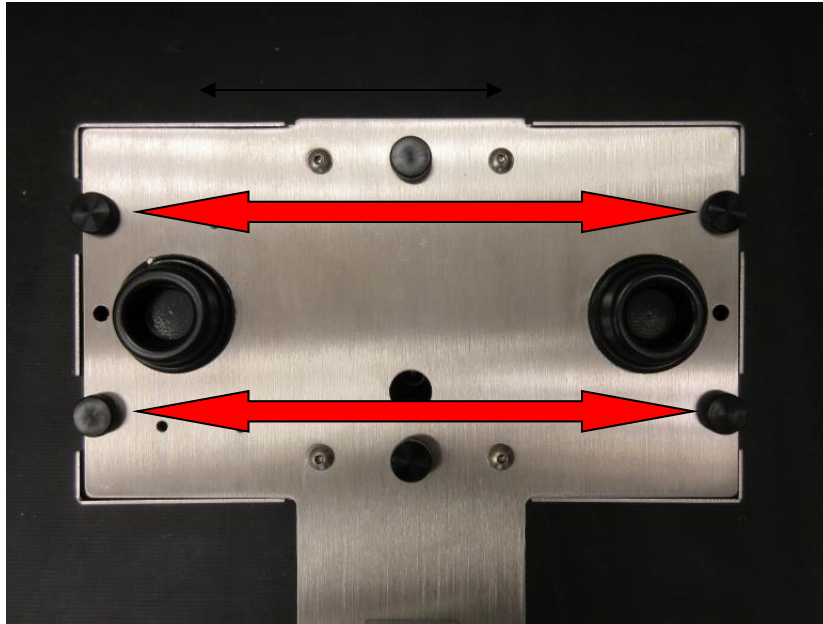

Figure 5.1.1 Cover screws
- Ensure air and power supply has been disconnected from the unit prior to removing the cover. Remove the four thumb screws securing the cover to the base plate. Lift cover out of the way. *Figure 5.1.1*